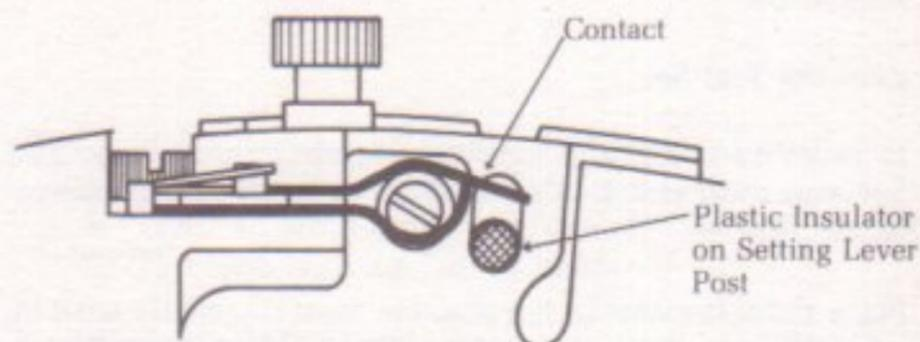

Fig. 27
1. **Stem Out (Setting Position):** Switch spring must be in contact with switch strap and there must be clearance between switch spring and setting lever post. (Fig. 27).